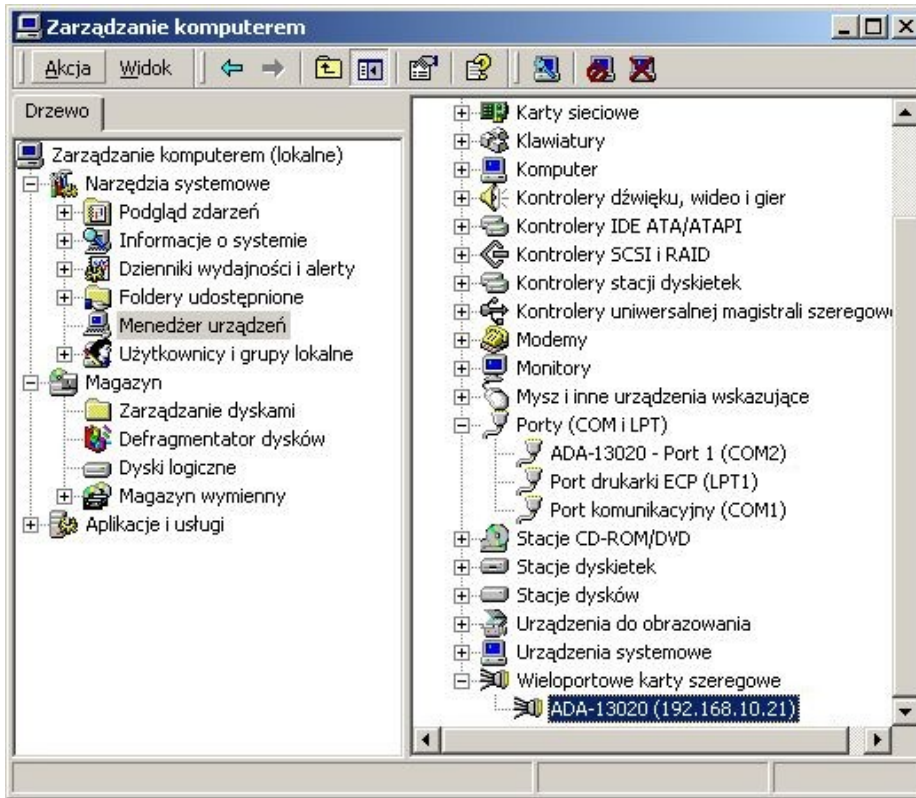

Fig. 29. Devices view on Windows XP
3. Press **[Ports (COM & LPT)]**. On fig. 29 are shown available serial ports COM1, COM2 and **COM3** marked as **Digi Connect ME** which was created after installation of RealPort driver.